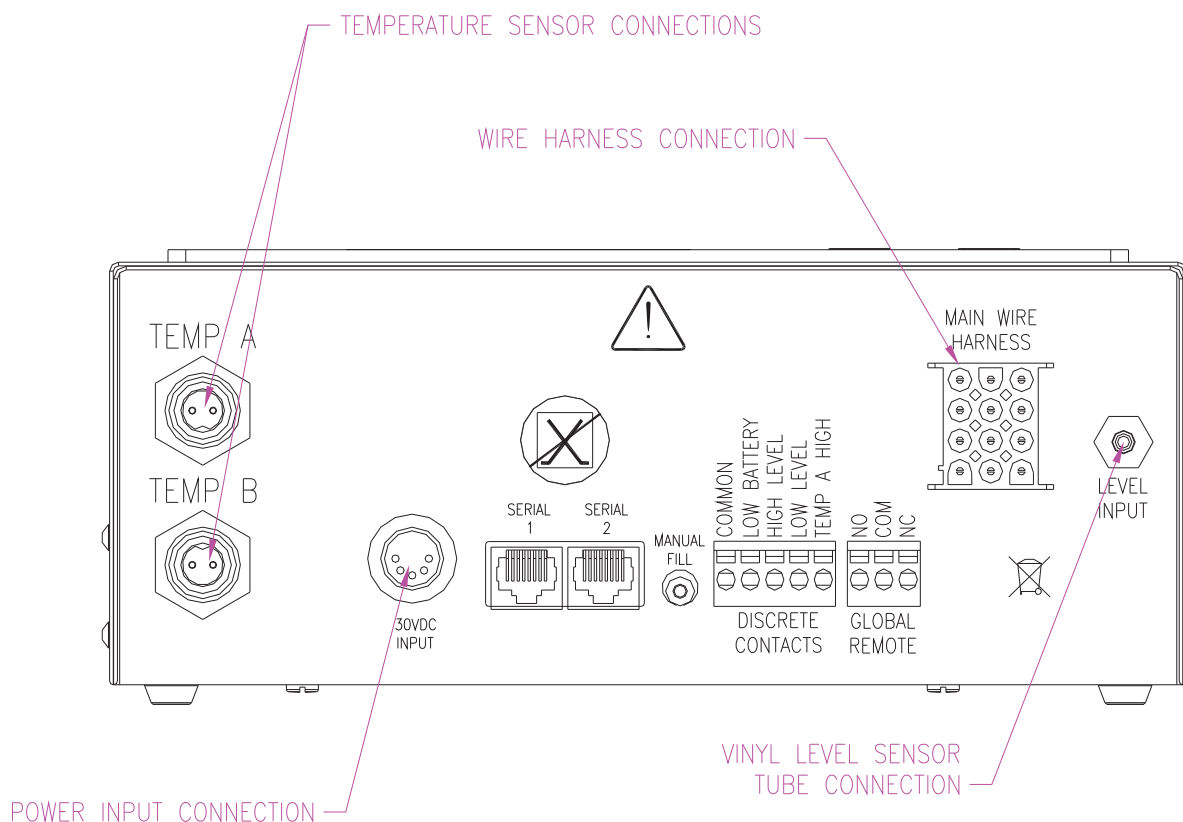

Figure 4, TEC3000 CONTROLLER CONNECTIONS
7. Connect the new wire harness to the base of the controller. Reference Figure 4
8. Connect the new temperature sensors to the base of the controller. Reference Figure 4
13. Connect the level sensor tube to the hose barb on the base of the new controller. Reference Figure 4
14. Connect the 30VDC input cable from the power supply to the receptacle on the base of the new controller. Reference Figure 4.